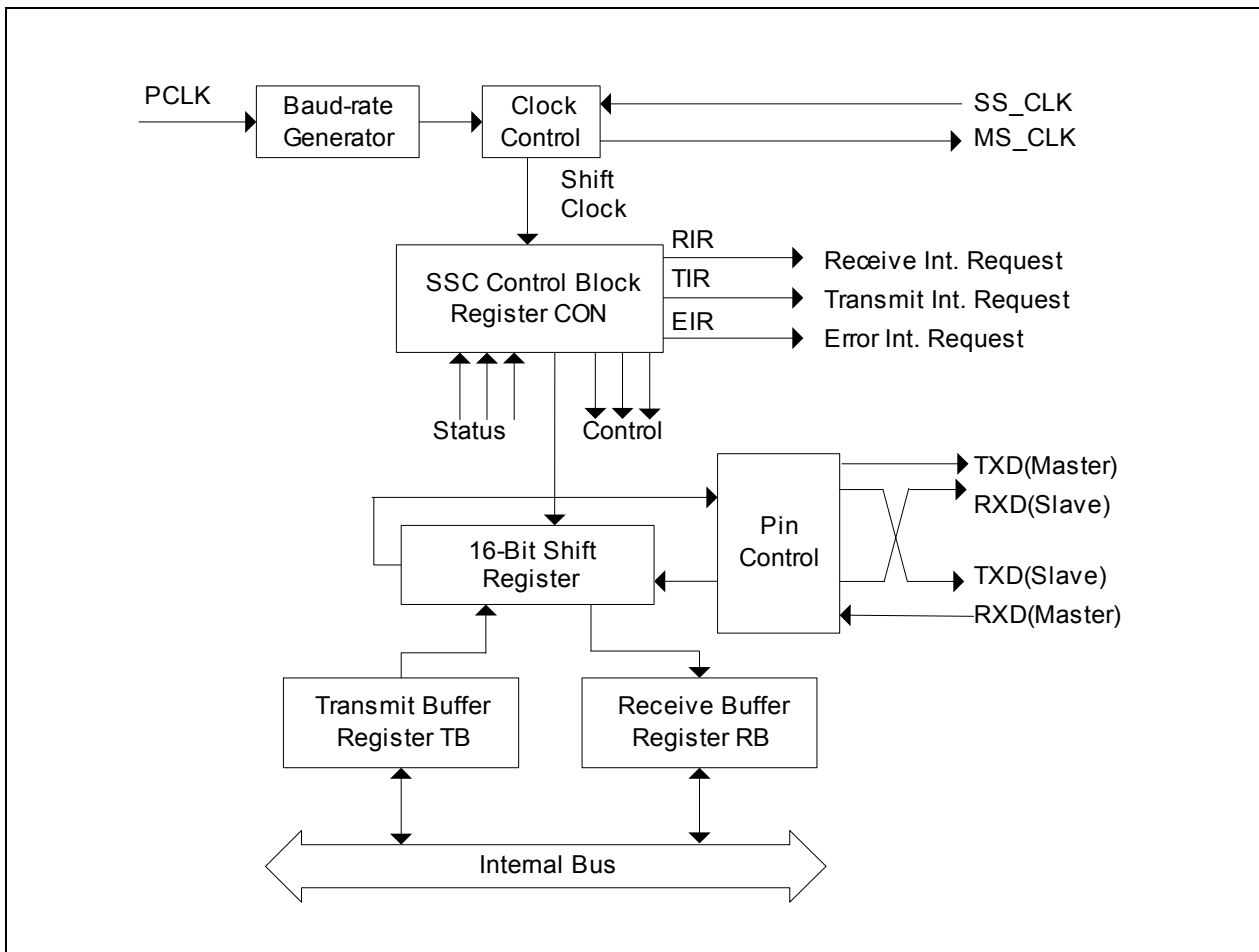

Figure 27 SSC Block Diagram
**Figure 27** shows the block diagram of the SSC.